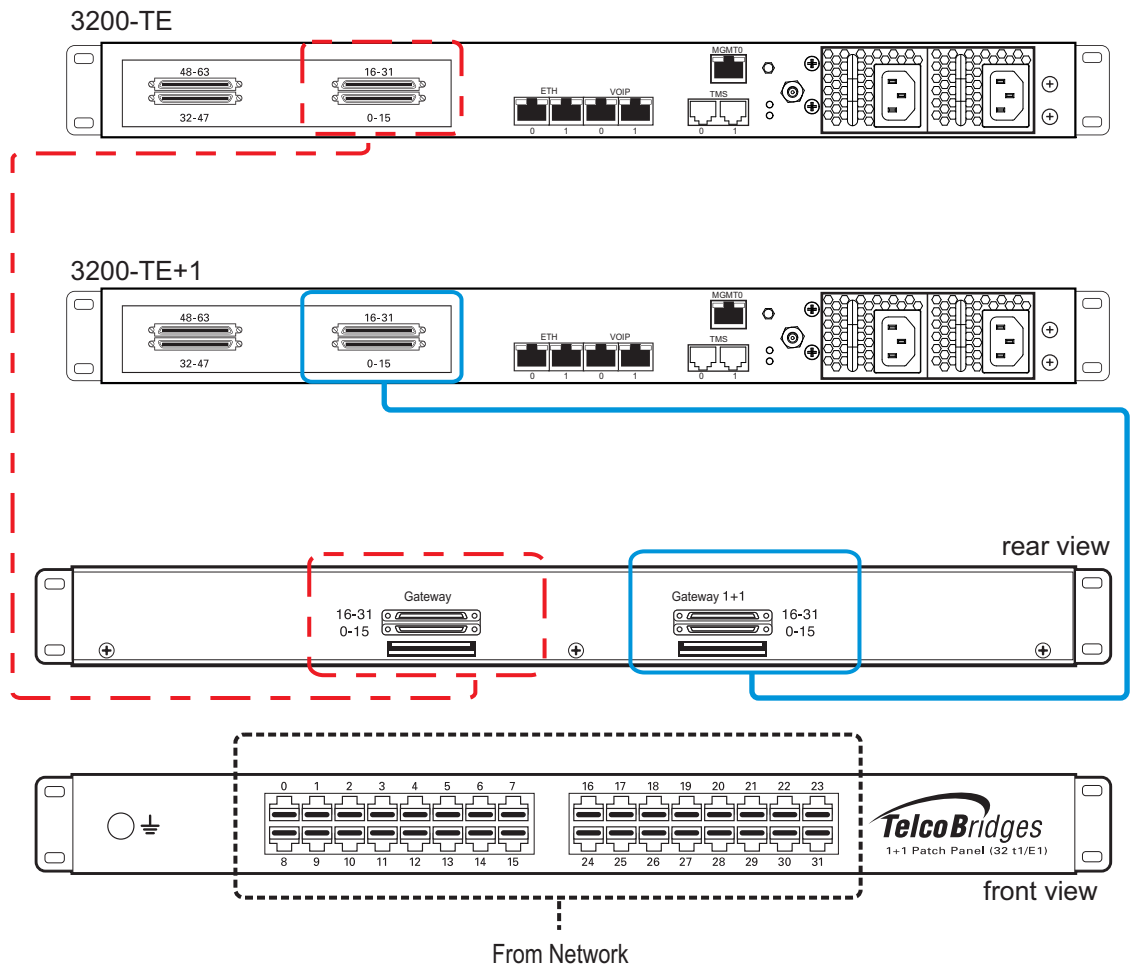

Figure 4.4 7800-TE and 7800-TE+1 connecting to the TDM 1+1 32/T1/E1 1+1 patch panel
1. Connect each T1/E1 line from the network section of the 1+1 patch panel to the remote equipment. See figure 4.4 on page 28.